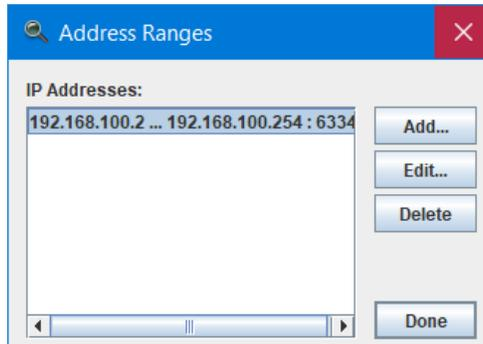

Figure 3-6 Address Ranges Window
- b. An Address Ranges window will open. If the IP address of your UEI-PIO-1010 is not in the listed range, click **Edit** to modify the existing range or click **Add** to add a new subnet or range (**Figure 3-6**).